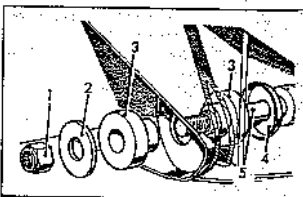

Fig. 11.2 Front radius arm - rear mounting (exploded view) (Sec 3)
- 3 Undo the nut and remove the washer and bush on the rear end of the radius arm (Fig. 11.2).